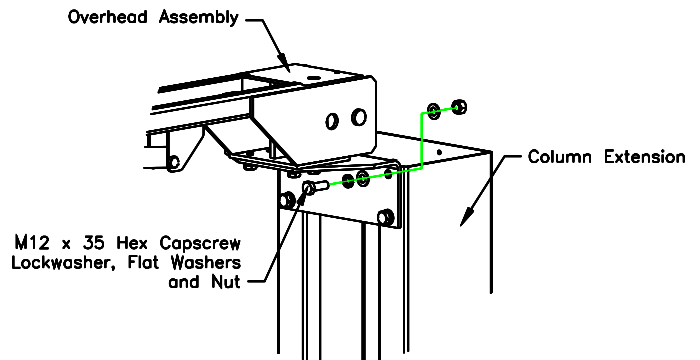

Fig 8 – Overhead Installation
- Raise and install the Overhead Assembly using M12 x 35 Hex Bolts, lock washers, flat washers and nuts. See Fig 8 below.